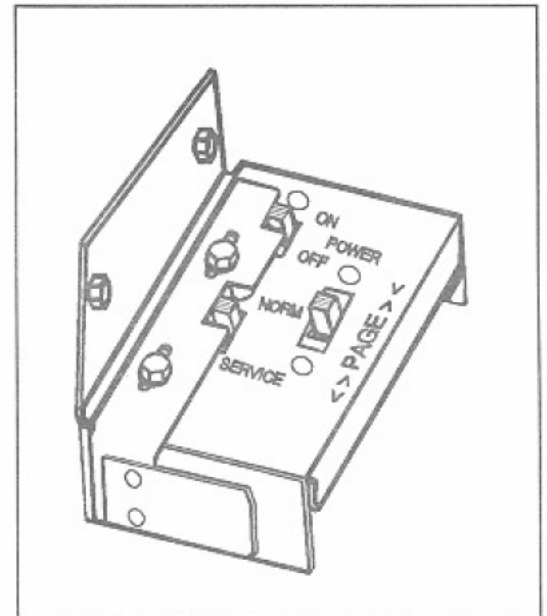

Figure 2-4 Service Switch
7. Repeat steps 4 and 5 until all titles are installed. Use the PAGE switch (*figure 2-4*) to change title rack pages. Insert filler title strips (Part Number 30940601) to fill out any unused space left on a page. Insert these in the same way that you installed the fill-in title strips.
2. Move the SERVICE switch to the SERVICE position, if not already done (refer to figure 2-4).
2. Move the SERVICE switch to the SERVICE position, if not already done (*refer to figure 2-4*).